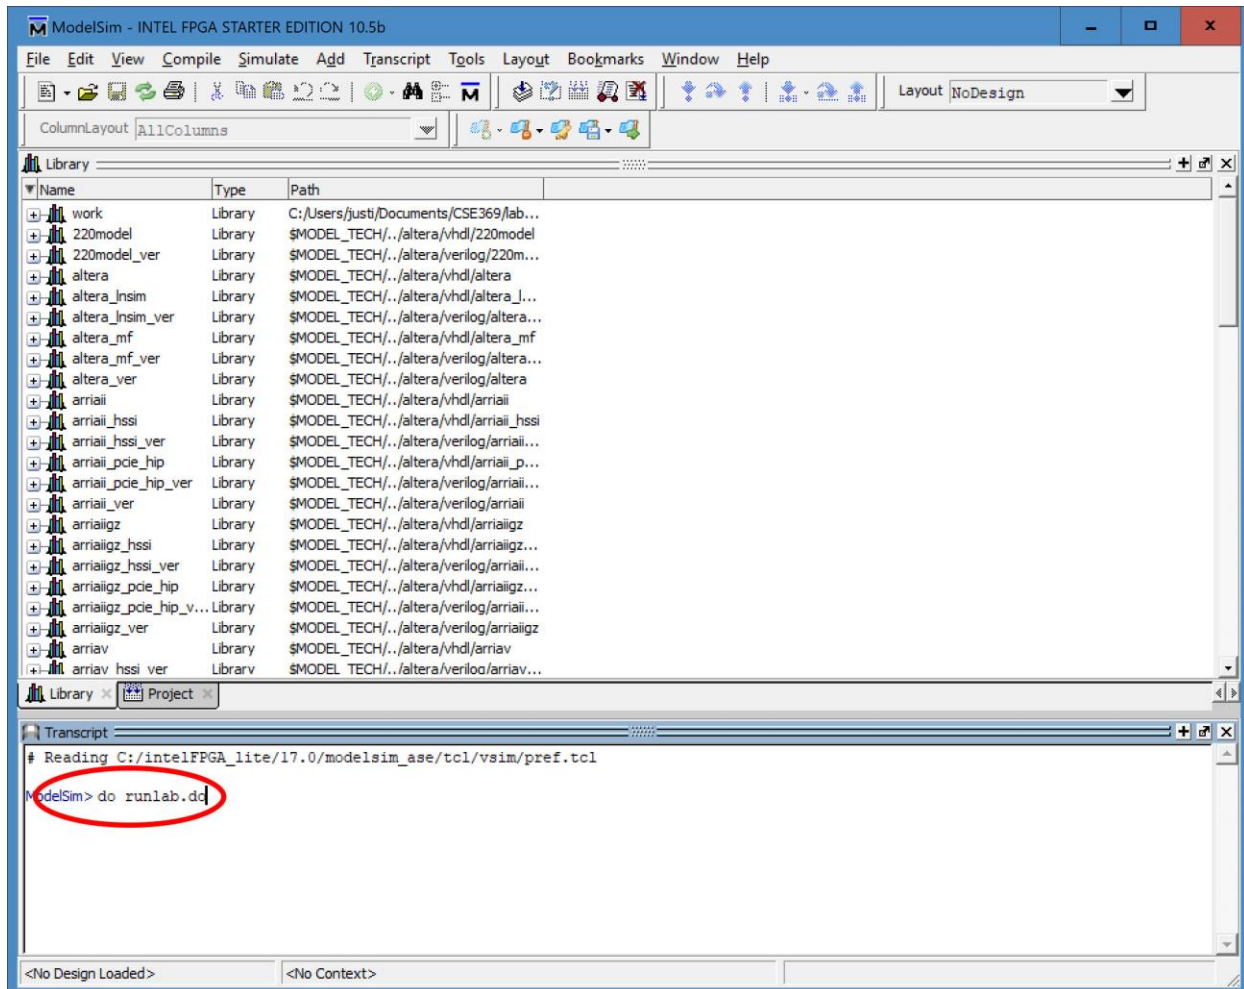

Figure 6: Entered the command "do runlab.do" into the Transcript pane. Press <Enter> to issue the command.
- 2) **Simulate the circuit by issuing the command “do runlab.do” in the Transcript pane.** The Transcript pane can be found at the bottom of the ModelSim window (Figure 6). The *runlab.do* file will compile and run the simulation for mux2_1.